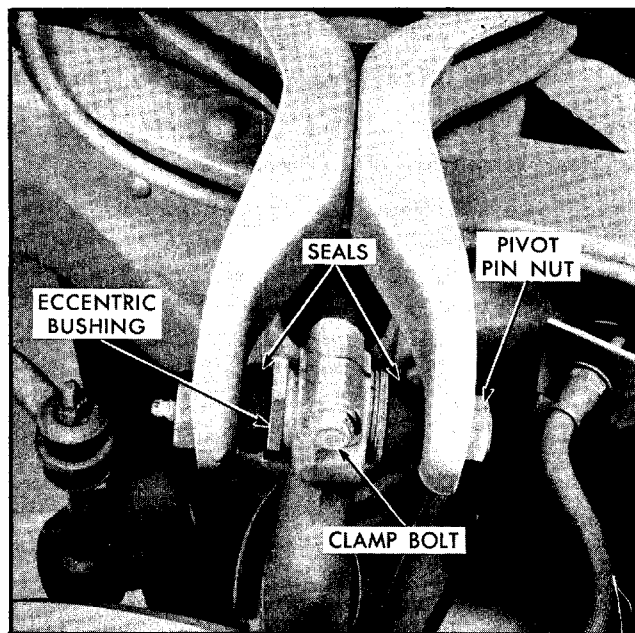

Fig. 3-14 Upper Pivot Pin Assembly
2. Remove nut from rear end of upper pivot pin (Fig. 3-14).
5. Stretch rubber seals over end of control arm into position over threads of pin as shown in Fig. 3-14.